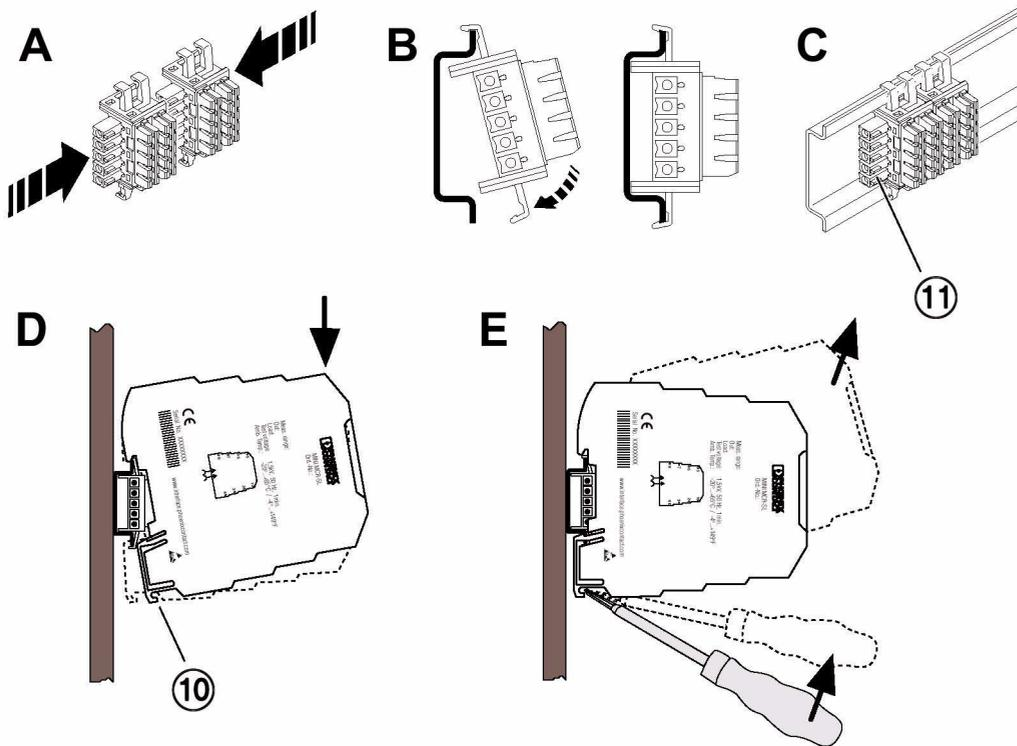

Figure 5 Mounting/Removing
Snap-on foot (Figure 5, detail D 10) below and **plug (Figure 5, detail C 11) left!**
- First position the DIN rail bus connector in the DIN rail to bridge the voltage supply (see Figure 5).